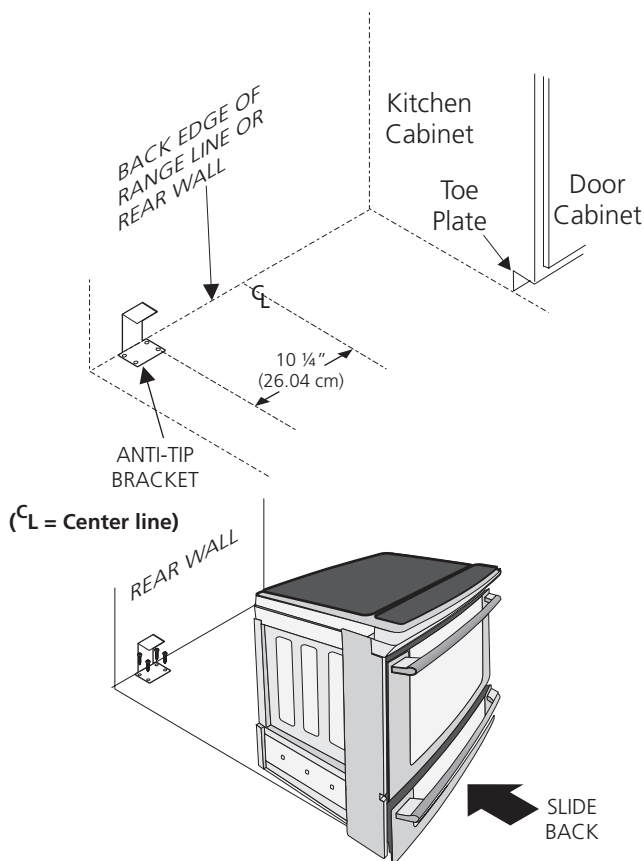

Figure 11
1. Draw a center line (CL) on the floor where the range should be installed. Also draw a line on the floor at the range back position if there is no wall.
2. Unfold paper template and place it flat on the floor with the right rear corner positioned exactly on the intersection of the center and back lines you just drew before. (Use the diagram below to locate brackets if template is not available. (Figure 11))
6. Slide range into place making sure structure of the range is trapped by the anti-tip bracket (Figure 11). Lower the range by adjusting the 4 levelling legs until the underside of the cooktop is sitting level on the countertop. Refer to "Levelling the Range" section.